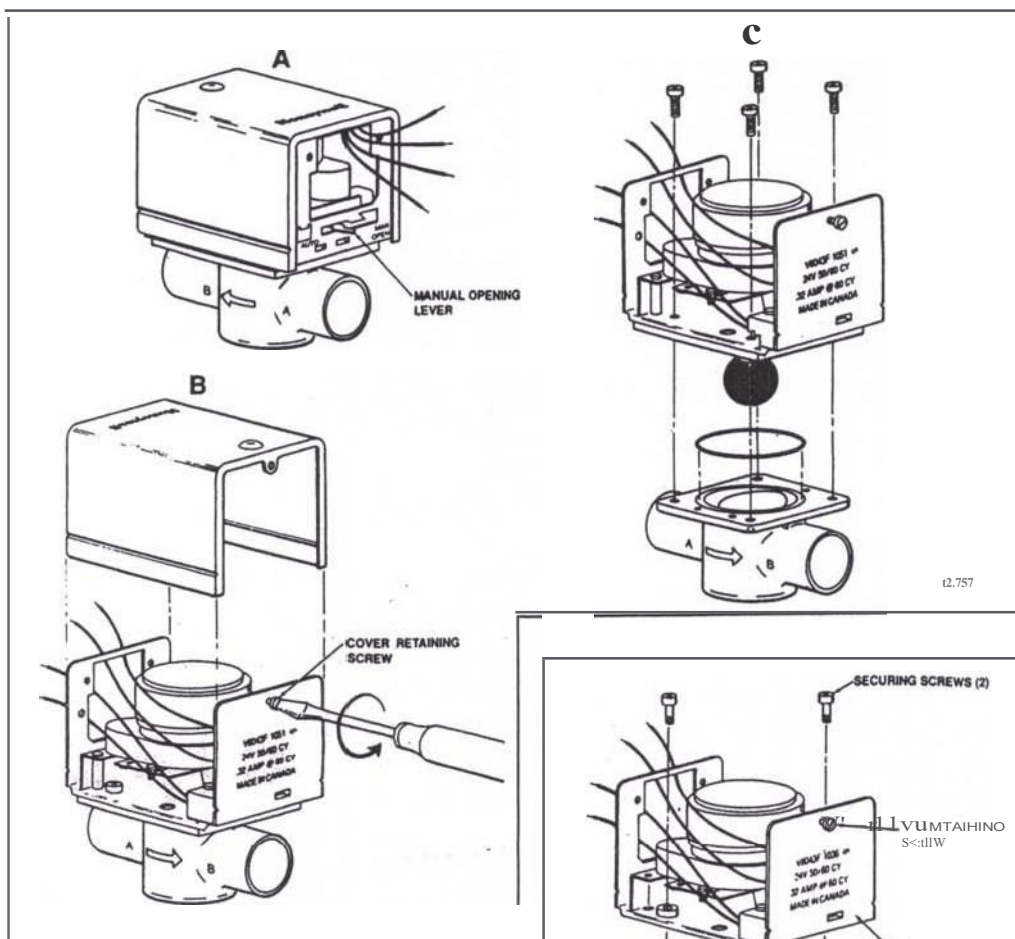

Fig. 4-
2. Push the manual opening lever to the “MAN. OPEN” position (see Fig.4-A).
3. Remove the front screw securing the cover to the power head and lift the power head off (see Fig.4-B).